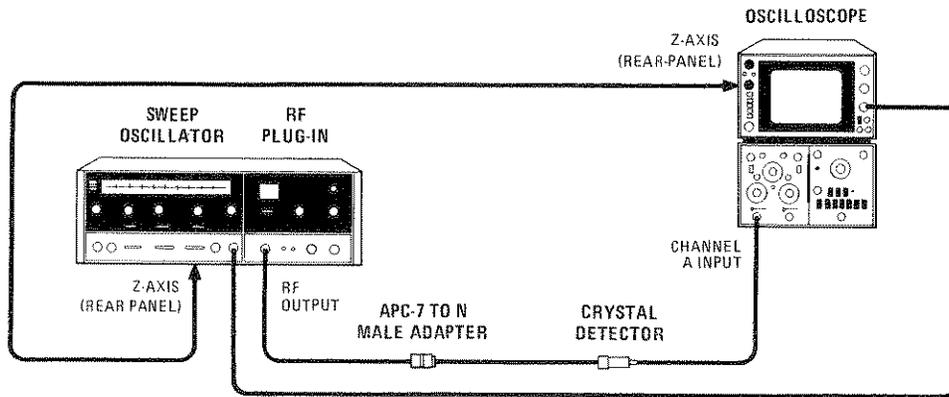

Figure 4-14. Frequency Markers Test Setup
- b. Connect equipment as shown in Figure 4-14.